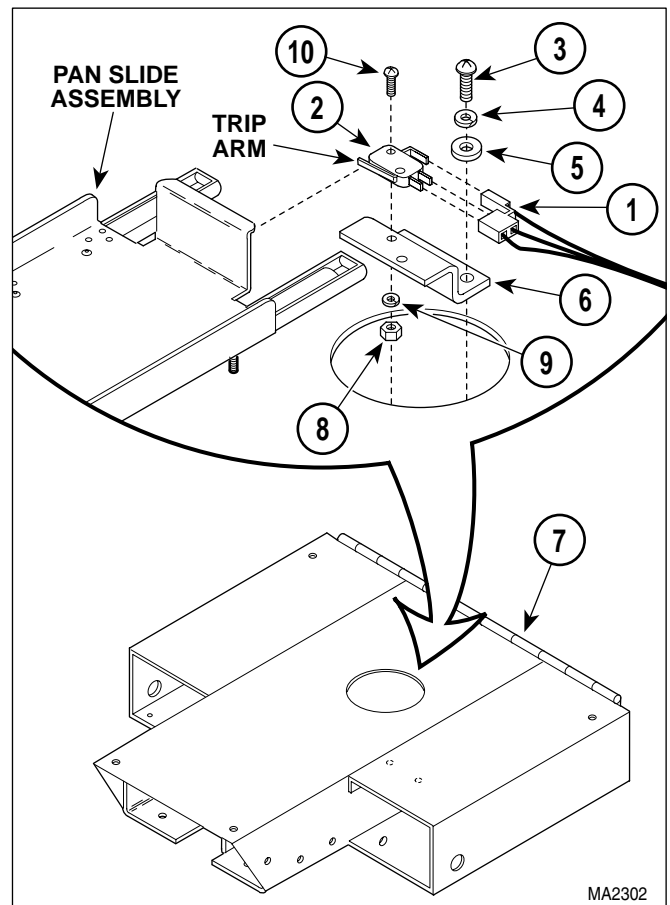

Figure 4-27. Pan Safety Limit Switch Removal / Installation
- (4) Remove upholstered seat section (Refer to steps 5 thru 8 of para 4.29A, steps 7 thru 12 of para 4.30A, or steps 6 thru 8 of para 4.30.1A).
- (5) Disconnect wire harness (1, Figure 4-27) from pan safety limit switch (2).
- (6) Remove two screws (3), lockwashers (4), washers (5), and pan safety limit switch (2)/ bracket (6) as an assembly from seat weldment (7).
- (7) Remove two nuts (8), lockwashers (9), screws (10), and pan safety limit switch (2) from bracket (6).
- (1) Install pan safety limit switch (2, Figure 4-27) on bracket (6) and secure with two screws (10), lockwashers (9), and two nuts (8).